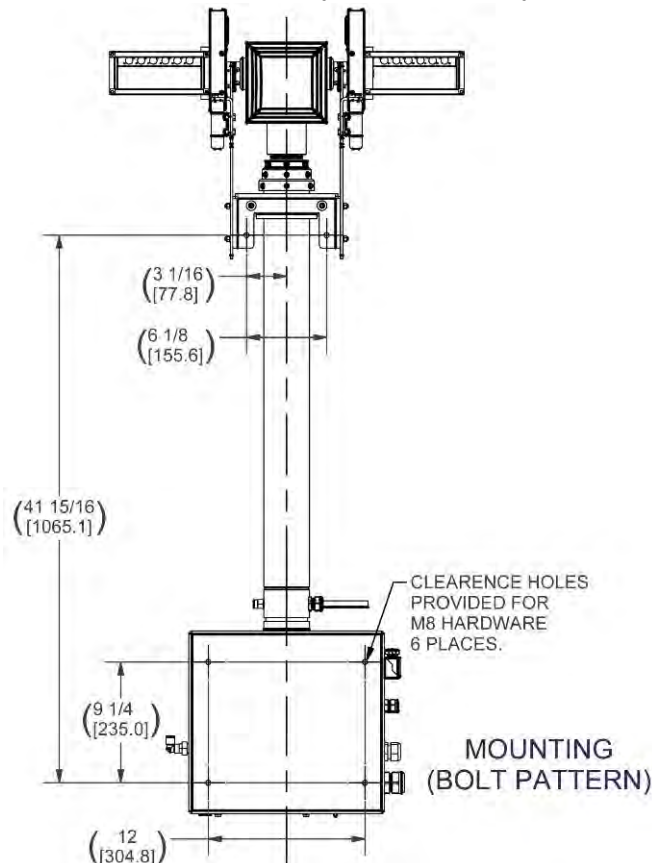
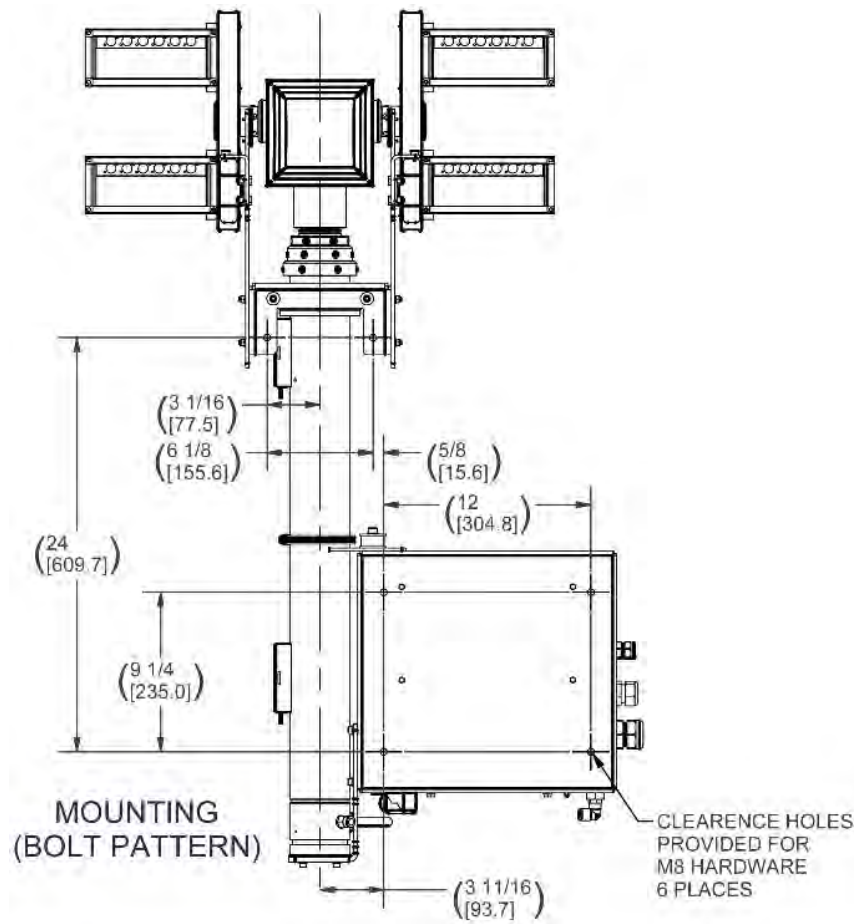

Figure 5-3 Night Scan Vertical Complete Mounting Hole Locations (Control Box Mounted to the Bottom of the Mast)
Figure 5-4 Night Scan Vertical Complete Mounting Hole Locations (Control Box Mounted to the Side of the Mast)
3. Reference Figure 5-3 and Figure 5-4 for mounting hole locations for your system. These locations will vary based on which system you are using. Drill two 5/16 inch clearance holes into the vehicle mounting structure where the saddle part of the mast will mount. Drill four 1/4 inch clearance holes into the vehicle mounting structure where the control box part of the mast will mount. There are four holes for the control box, and two holes for the saddle.